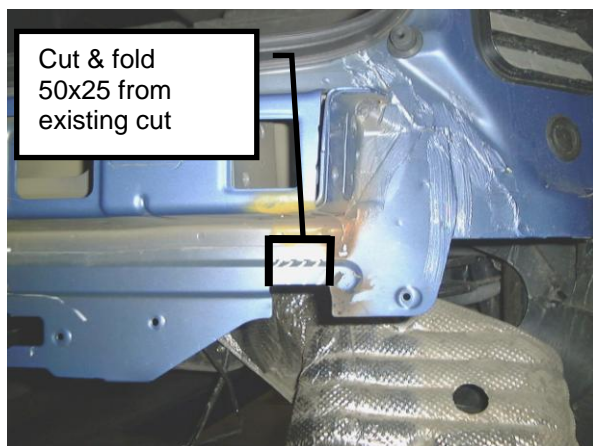

FIG 1 DRIVERS SIDE
- 4 Cut rear panel as per diagram with tin snips, then fold section of panel up and flat. (see Figures 1 & 2)